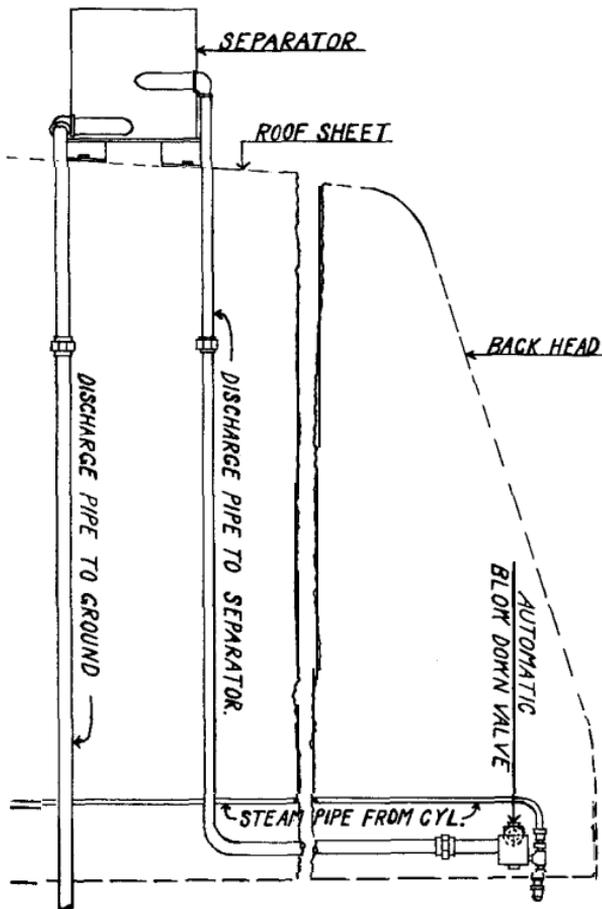

FIG. 44-AUTOMATIC BLOW DOWN ARRANGEMENT.
**Automatic Blow Down:**—The automatic blow down (Fig. 44, page 75) is a device that allows a small amount of water (approximately 300 gallons per hour) to be discharged from the boiler when the throttle is open. The purpose of this device is to control the boiler water concentration at a reasonable figure by continuously removing dissolved solids and sludge at approximately the same rate they are added with the feed water.